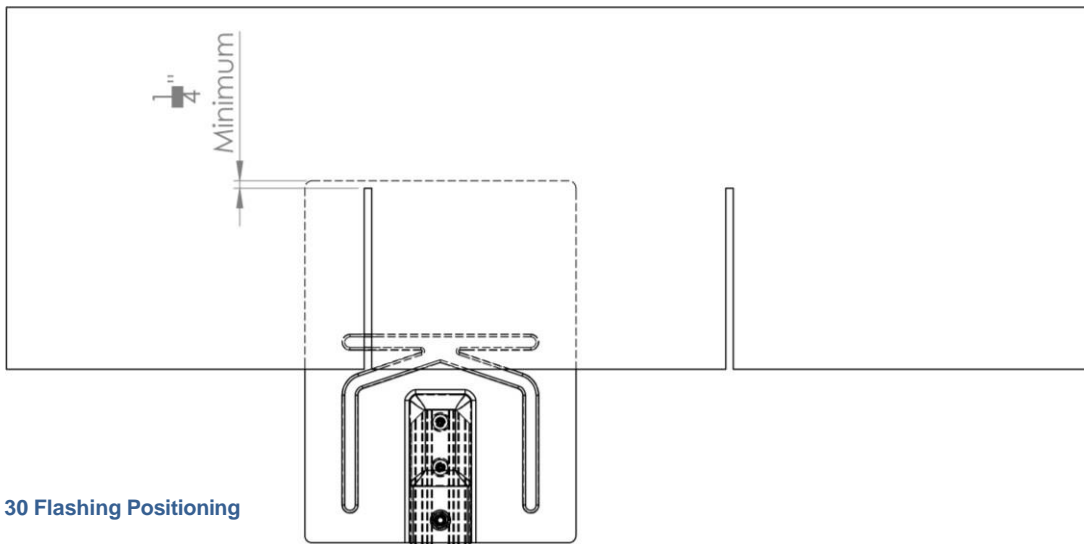

Figure 30 Flashing Positioning
- i. Measure and mark the appropriate mount locations. Use a measuring tape to ensure chalk lines are straight and square. When marking, take care to ensure that the top of the flashing is at least  $\frac{1}{4}$ " above the top of the tab in the shingle (Figure 30 Flashing Positioning). Install on an individual shingle surface. The surface must be flat and even (within  $\frac{1}{16}$ ") to ensure a watertight seal – do not install over cut out or butt edge of the shingle. If the flashing bubble interferes with the shingle edge, minor trimming may be required of the lower edge of the top shingle.